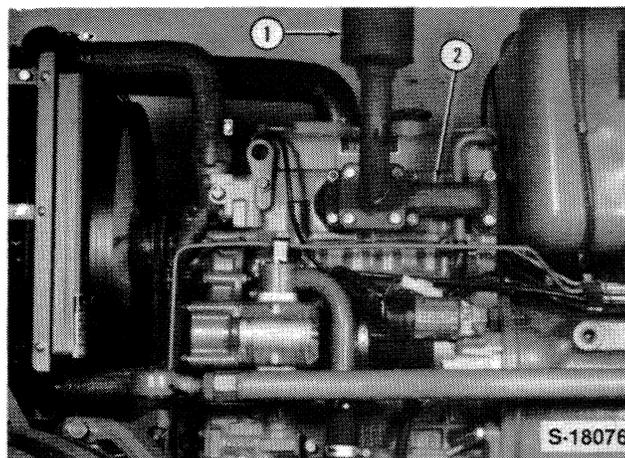

Figure 4
4. Remove the exhaust muffler and manifold assembly, Figure 4.